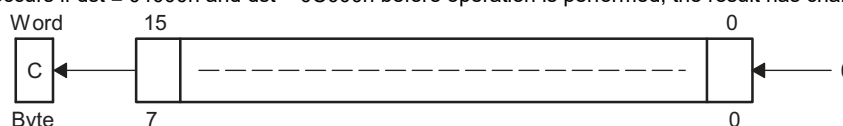

Figure 4-37. Destination Operand—Arithmetic Shift Left
Description The destination operand is shifted left one position as shown in Figure 4-37. The MSB is shifted into the carry bit (C) and the LSB is filled with 0. The RLA instruction acts as a signed multiplication by 2. An overflow occurs if $dst \geq 04000h$ and $dst < 0C000h$ before operation is performed; the result has changed sign.